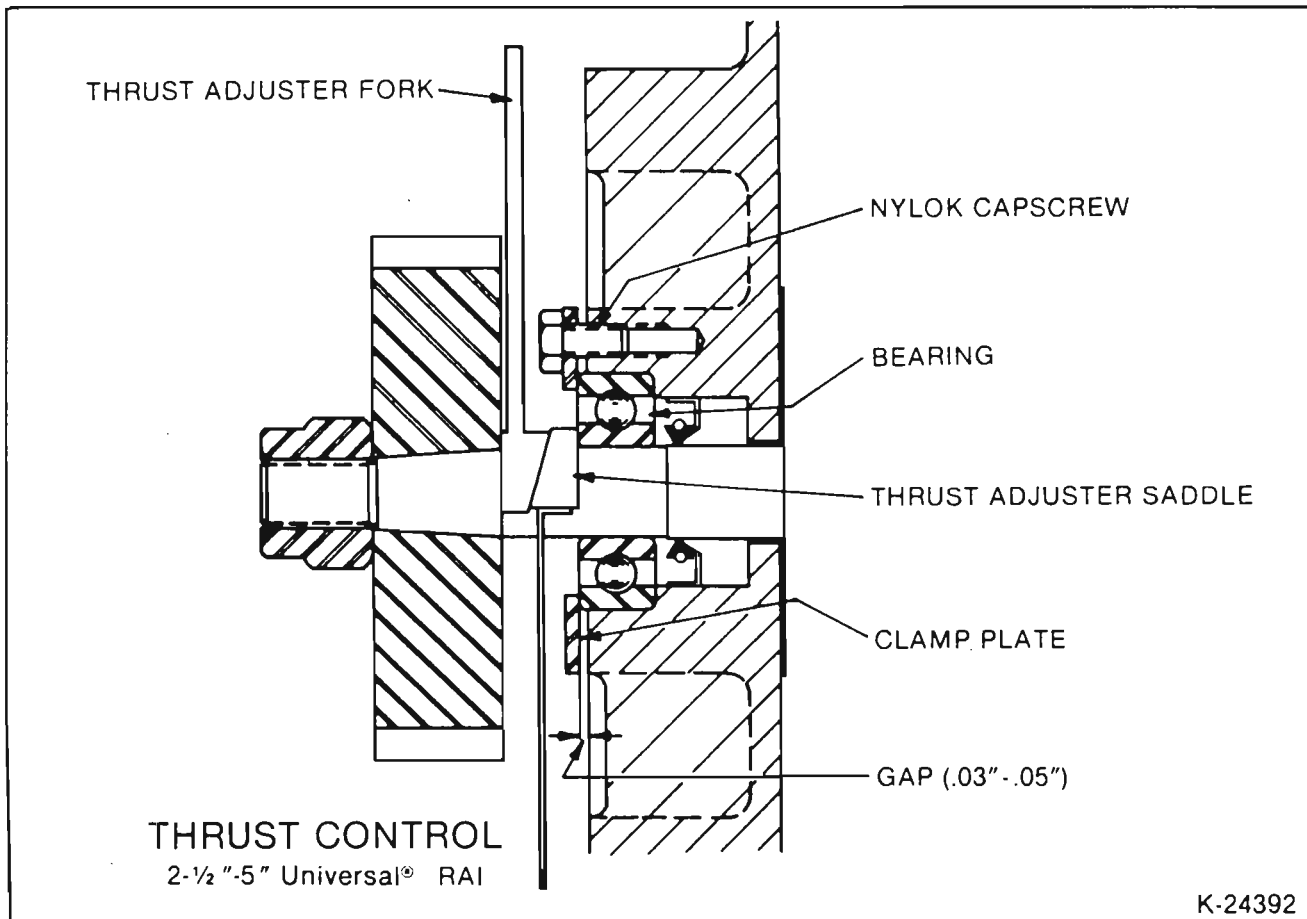
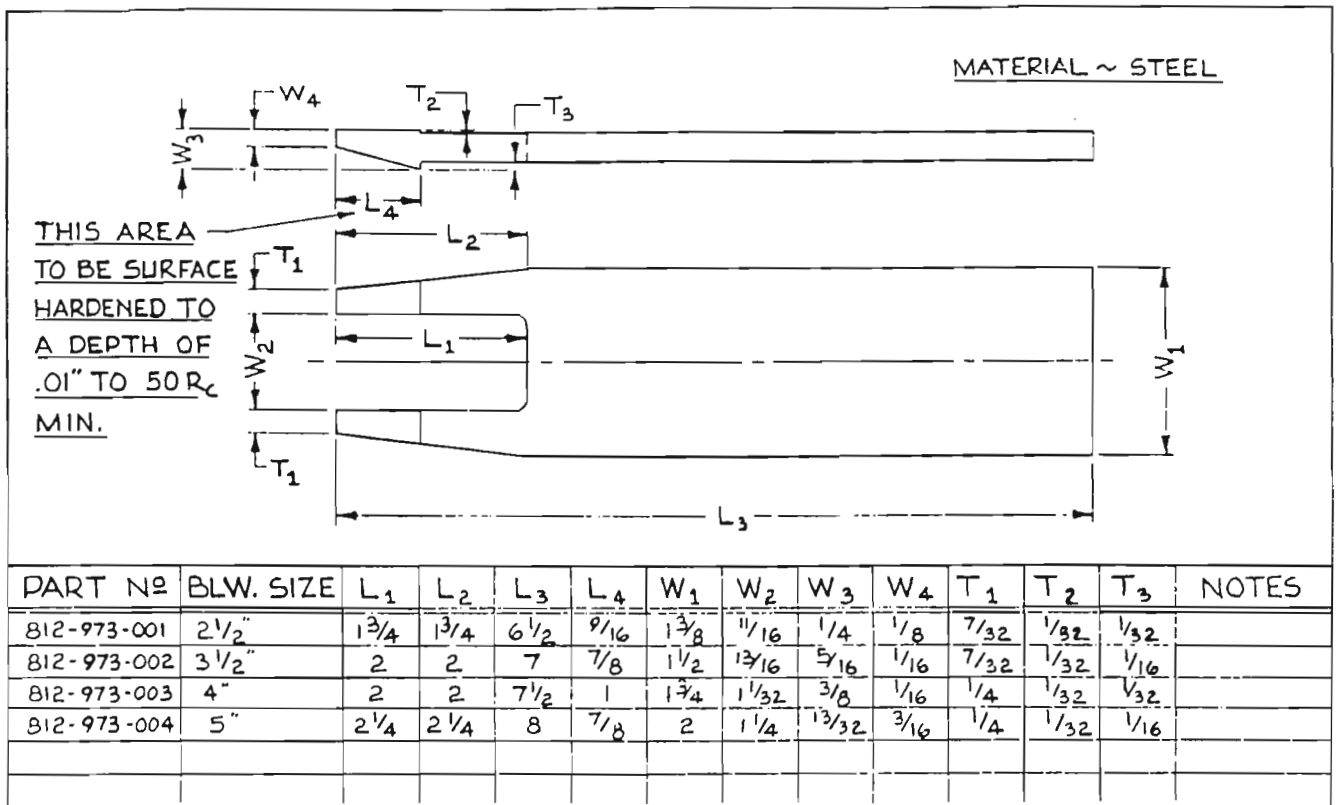

Figure 6 — Thrust Setting, 2½"-5" UNIVERSAL RAI®
Figure 7 — Thrust Adjuster Fork
11. Place blower on its feet on a flat surface. Loosen feet capscrews (32) and square up unit. Re-tighten capscrews (32). Clamp unit down to a solid base for further assembly.
12. Oil the gear end bearing fits as described previously. Install 2½-5" UNIVERSAL RAI® gear end bearings flush with the headplate bearing shoulders using proper drivers. On 6" & 7" UNIVERSAL RAI®, install thrust washer (29) in bearing bores then install gear end bearings so that they protrude ⅛" (1.6mm) above headplate surface.
13. Install bearing clamp plates (34). On 6" & 7" UNIVERSAL RAI®, impeller end clearances are also to be set during this step. Install clamp plates (34) with capscrews (31) making sure that the gap between the clamp plates and the headplate is even all around, at the same time, set end clearances per Table 5.
14. Install gears and time impellers as in (A).
15. For setting end clearances on 2½-5" gear diameter units, special tools, thrust adjuster fork Fig. 7 and thrust adjuster saddle Figure 8 are required. Refer to Fig. 6 for installation of tools. The flat side of the saddle rests against the bearing inner race and the flat side of the fork rests against the back side of the gear. Install a shim, with thickness equal to gear end clearance (Table 6), between the impeller and the gear end headplates. Tap on top of the fork until the shim becomes snug. Remove the shim and check end clearances. To increase gear end clearance, tap on the end of the gear end shaft with